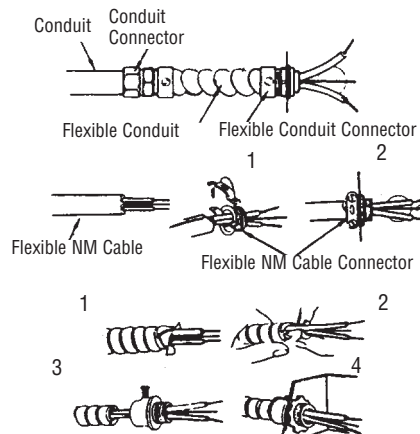

Figure 2 - Connectors, cable, and hardware used to wire the UH-524TA
NOTE: For certain applications, conduit may be required (see Figure 2). Check local electrical codes. If wiring is run in conduit, be sure there is enough flexible conduit to allow the heater to be turned if necessary.
2. Attach the cable connectors to the unit (See Figure 2) and slide the 10 gauge wire through the cable connector. Pull enough wire through the connector to work with when making the connections.